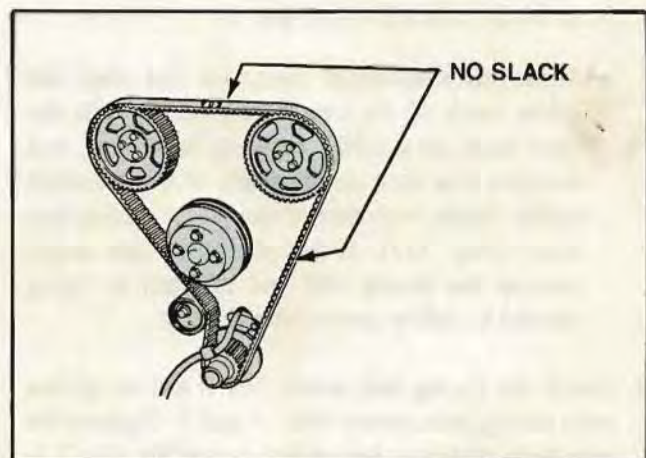

Figure 133. Timing Belt Tensioning
10. Install timing belt and camshaft pulleys (Fig. 133).